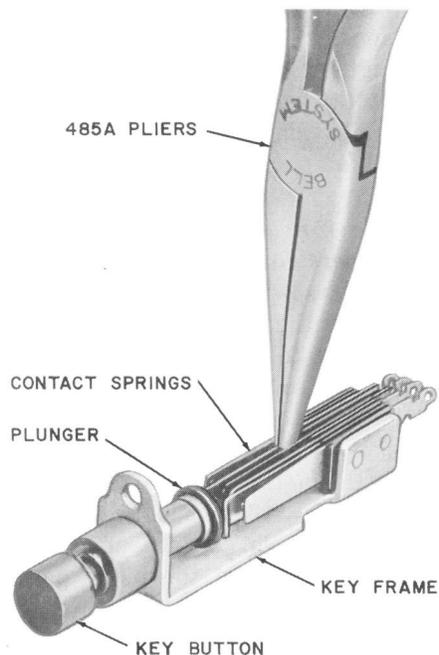

Fig. 15—Method of Adjusting Contact Springs
(4) Trouble due to springs touching each other which are designed never to make contact is caused either by springs being kinked, bowed, or by excessive follow. Straighten the springs or reduce the excessive follow as required with the 485A pliers.
(5) **Contact Separation:** If the separation between contacts on these keys is not satisfactory, adjust as required using the 485A pliers. Make adjustments close to the point where the spring leaves the clamping plate and insulator as shown in Fig. 15.
been dipped in KS-7860 petroleum spirits. Do not use the same toothpick for more than one operation. If the pressure requirement is still not met, proceed as follows: To adjust for contact pressure, contact follow, contact sequence, and plunger spring pressure, adjust the springs with the 485A pliers close to the point where the springs leave the clamping plate and insulators as shown in Fig. 15.